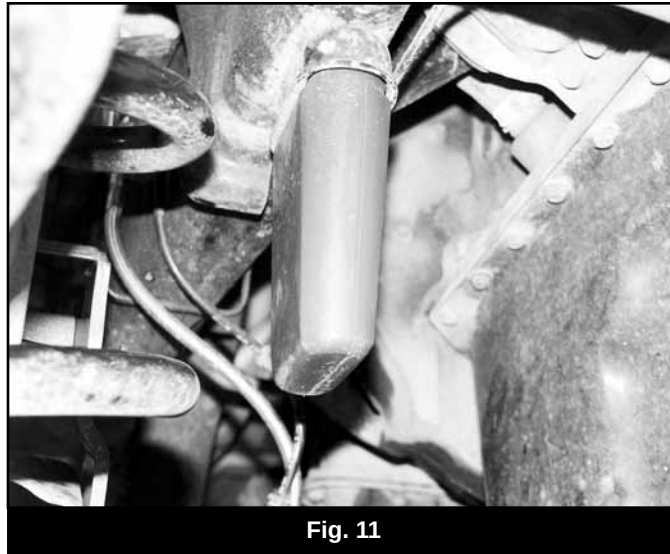

Fig. 11
40. Install the new extended bump stops in the original frame mounts. Grease the mounting surfaces to ease installation. (Fig. 11)